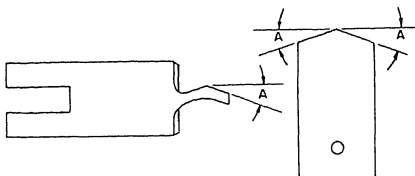

Figure 13-21.—Tooth rest blades for staggered tooth cutters.
3. Grind the tool rest blade to the helix angle of the cutter teeth on each side of the blade (fig. 13-21).